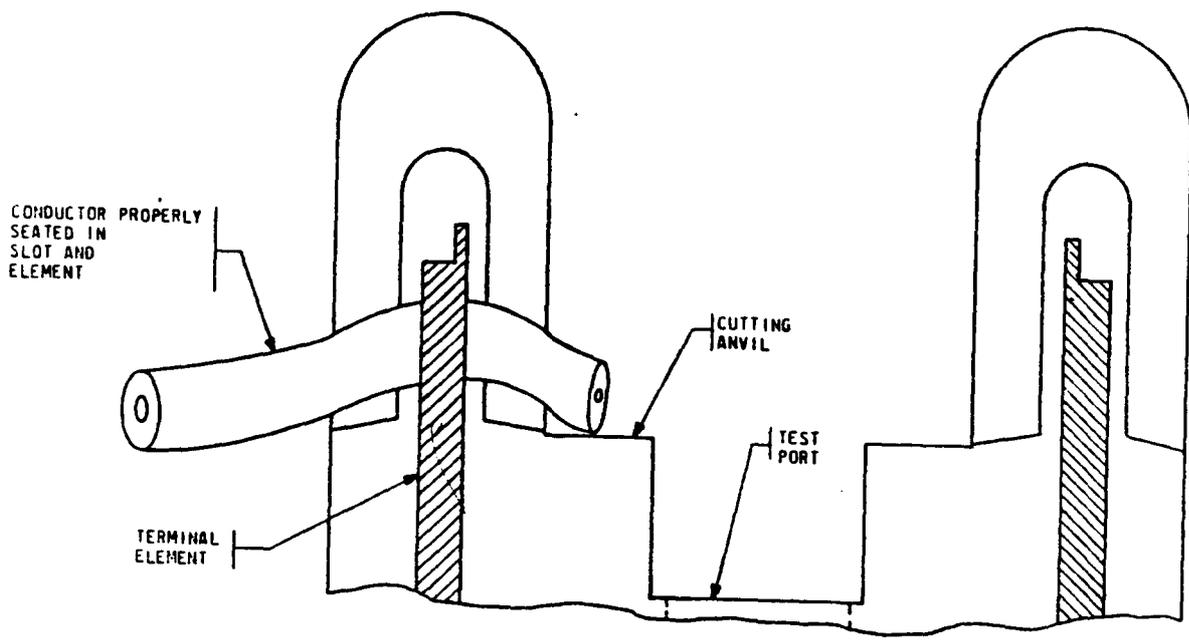

FIG 9
8.1 Every connection must be visually verified to make sure it is properly seated in its terminal on the 94 block. A connection that is only partly seated may show up as an open later in a quality audit. Reterminate any connection that does not look seated using the R-4710 tool. Metal clip of the terminal will be visible above wire end being terminated, and insulation on both side of wire end should be broken by the terminal clip. Refer to Fig. 8 (Page 7) and Fig. 9 (Page 8). Use R-4554 Magnifier to aid in the inspection of these connections. Connections will be viewed at a 45 degree angle to the block.
Figure 9 on page 9